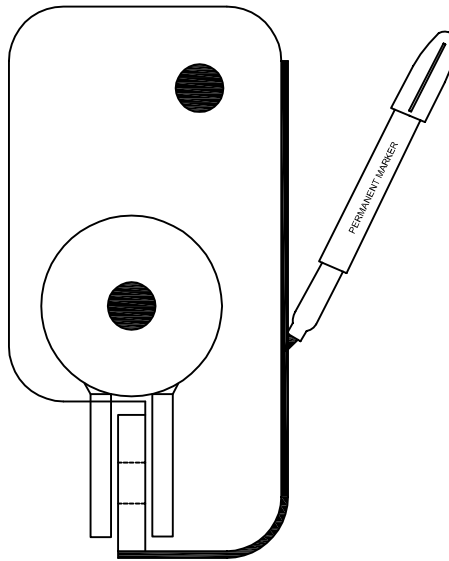

FIG. 1
2) Place both end sections of the enclosure on pad telescoped to your preference, making sure each piece will function. Mark location of hinges. FIG. 1
3) Mark locations to be drilled for hinge anchors, making sure to align hinges with existing marks; 2 per hinge. FIG. 1